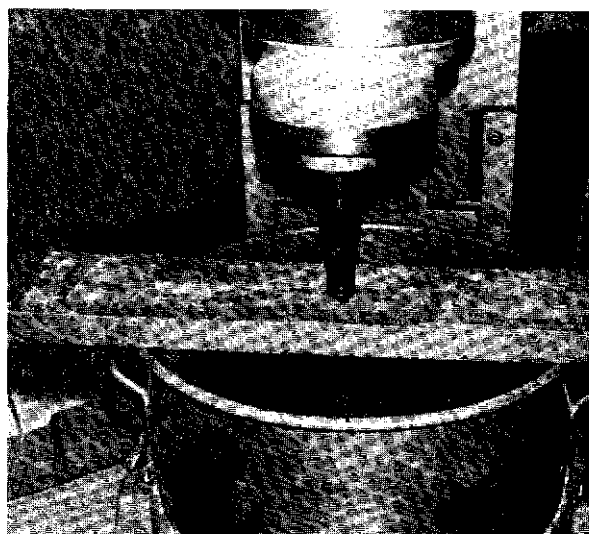

Fig. 10-19
- B. Support the planetary on the 2" x 4" board (Fig. 10-19) and slowly raise the bowl. Carefully mesh the fiber oil pump drive gear with the internal gear to prevent damage to the fiber gear.